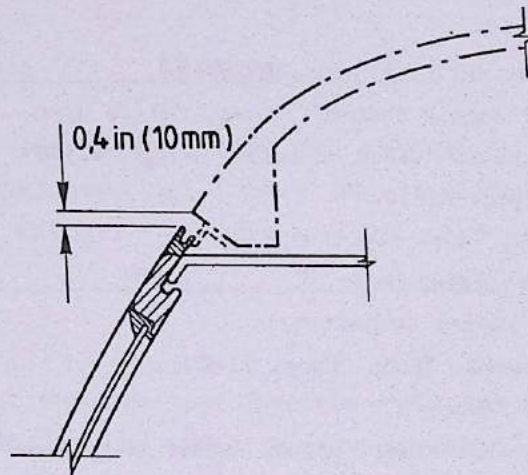

Fig. 601 Door Adjustment
- 2 Adjust the rail until the door gap (see Fig. 601) is approx. 0,4 ins (10 mm).